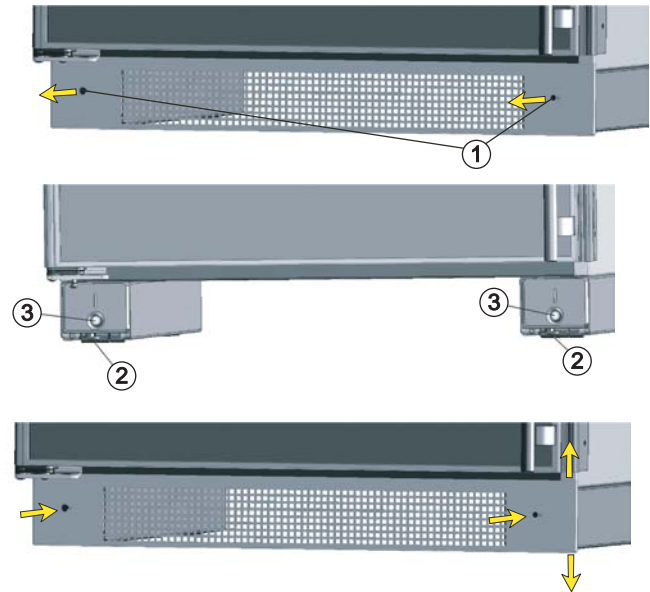

Figure 12
1. Loosen the lower ventilation grille screws (Fig. 12, 1).
The height can be adjusted in front by twisting the leveling wheels (Fig. 12, 2).
2. Twist the adjusting bolt (Fig. 12, 3) to set up the back of the refrigerator.